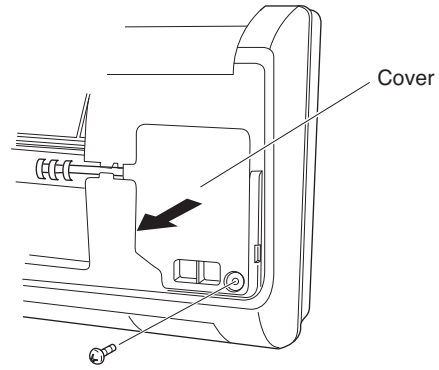

Fig. 24
- (1) Grasp both ends of the air intake grille, and remove it by opening towards the front and pulling towards you.
- (2) Remove the screw on the right side cover plate and open the cover. (Fig. 24)